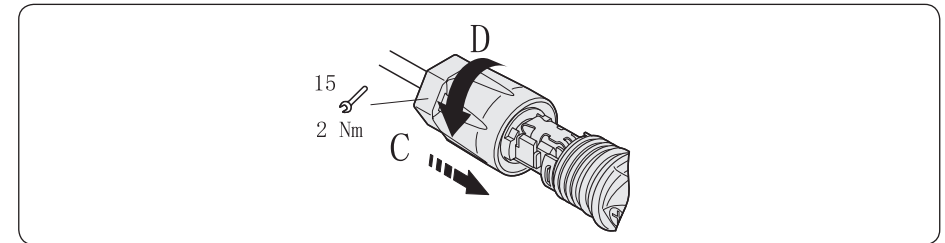

Figure 4-20
- 5) Push the battery connector to the thread joint, and use an open wrench to lock the connector in a torsion of 2Nm tightly, as shown in Figure 4-20: